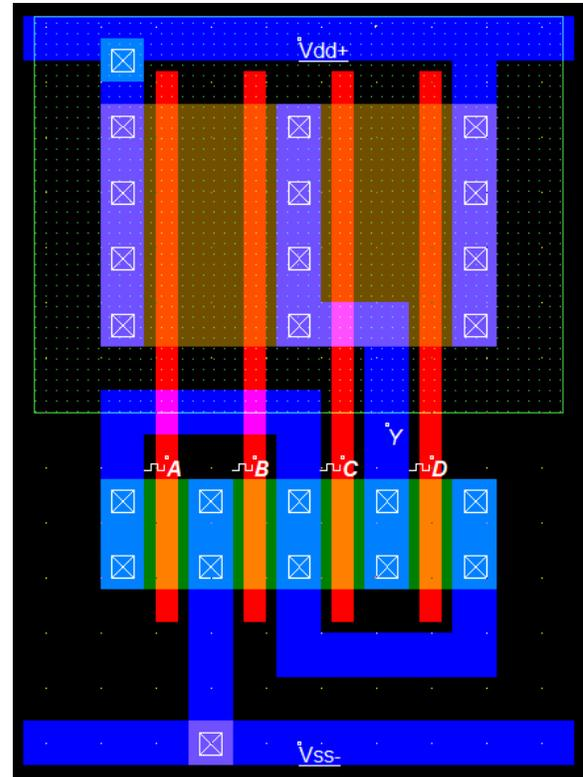

Figure 10
Then place appropriate input (clock) signals on polysilicon fingers, and VDD and GND on rails. Lastly, place a “Visible node” on output (Y) terminal. The final layout of CMOS OAI22 is depicted in Fig. 10.